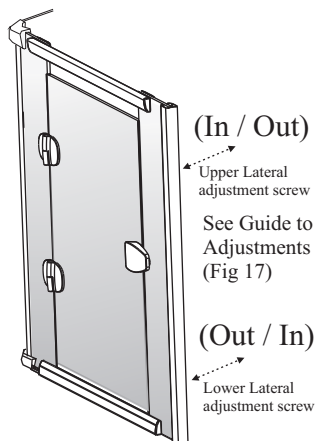

Fig. 21
- 9 FINAL ADJUSTMENT CHECK,** If the door and fixed panels are not aligned vertically (in to out), adjust the upper lateral adjustment screw in or out while watching to see which direction corrects the alignment. See Fig 21.